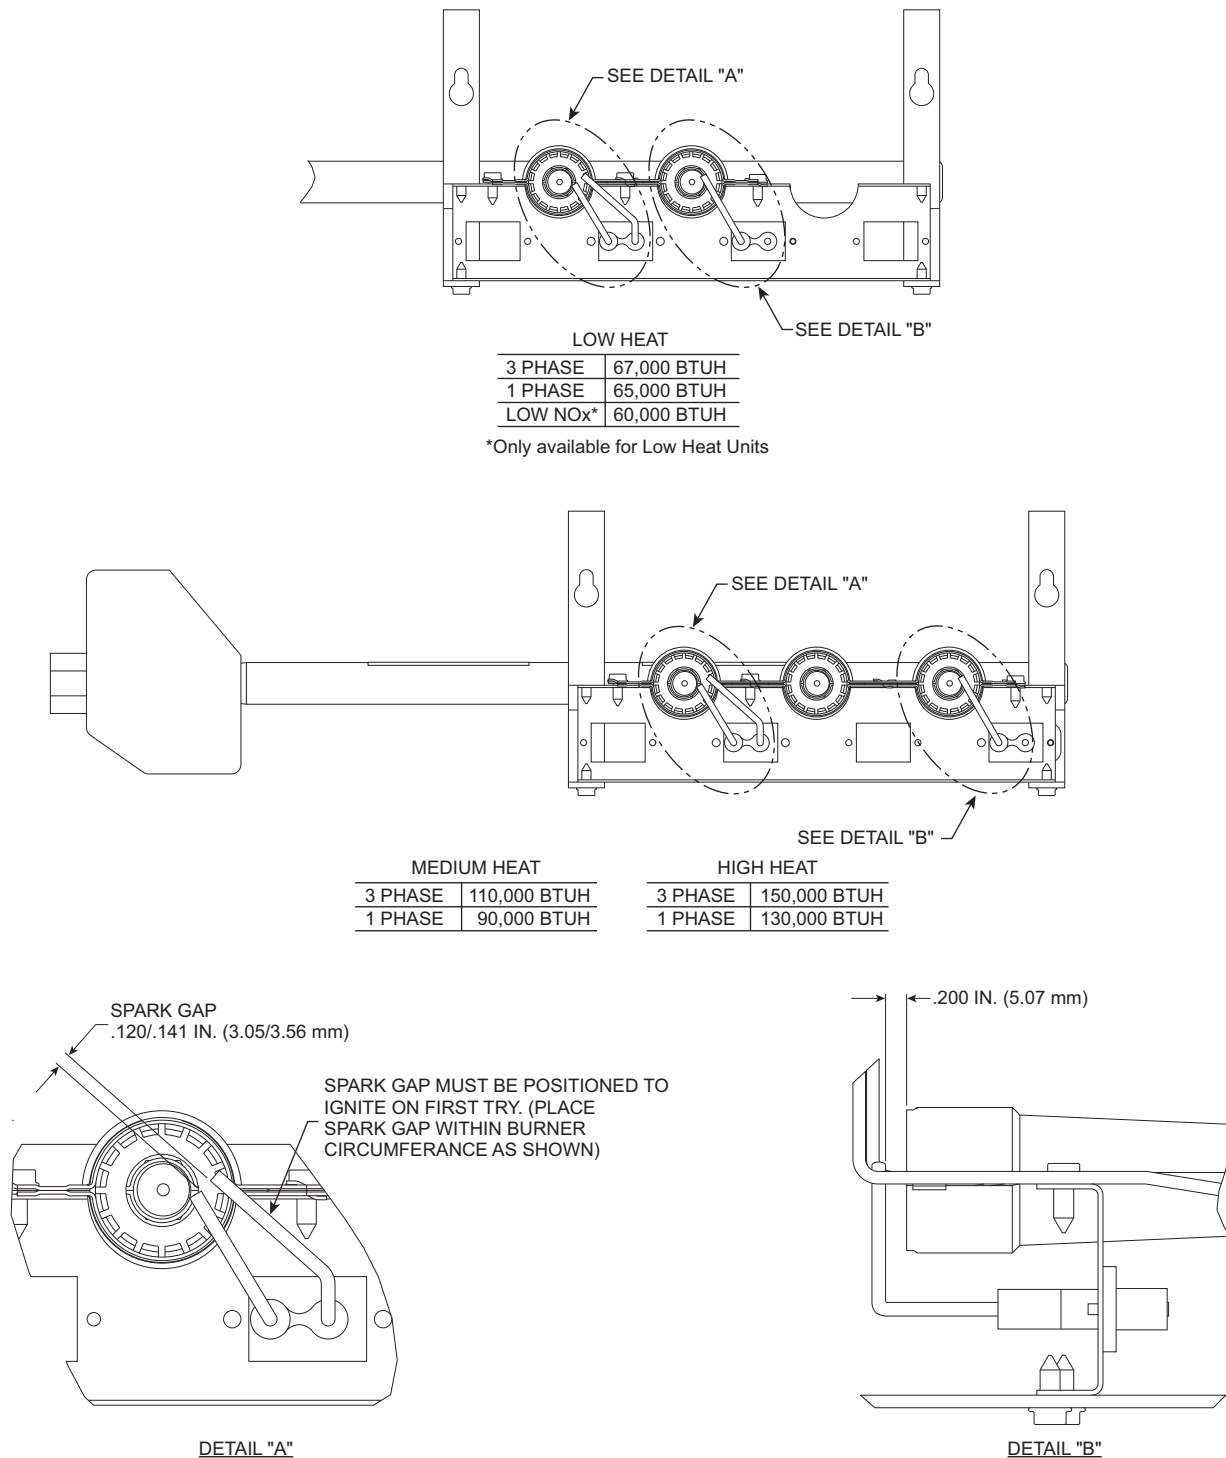

Fig. 57 — Spark Adjustment (Size 04-07)
4. Adjust spark gap. (See Fig. 57.)